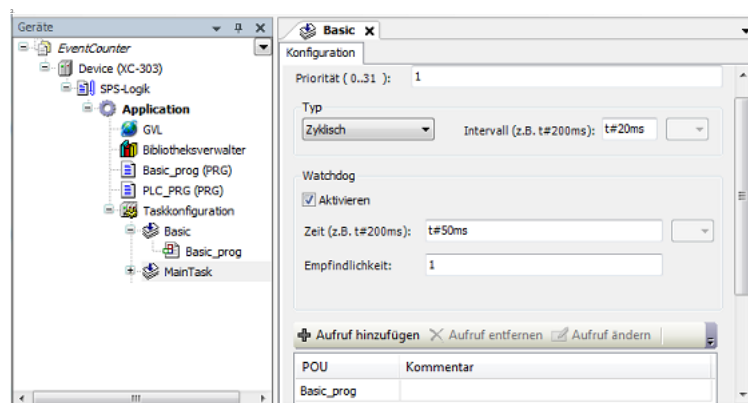

Figure 49: Configuring the cyclical task with a program call
- ▶ Set the task in the dialog as in Figure 49.